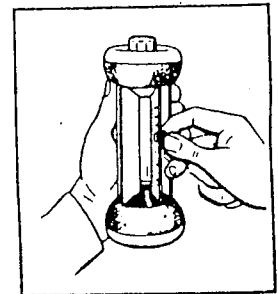
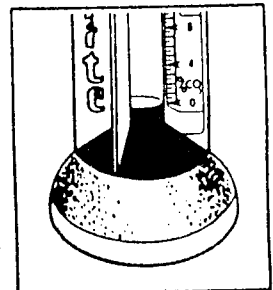

Figure 5
Figure 5A
5. Holding FYRITE upright (Fig. 5) loosen locknut at rear of scale. Slide scale until top of fluid column lines up with zero on scale. (Fig. 5A). Tighten scale locknut.